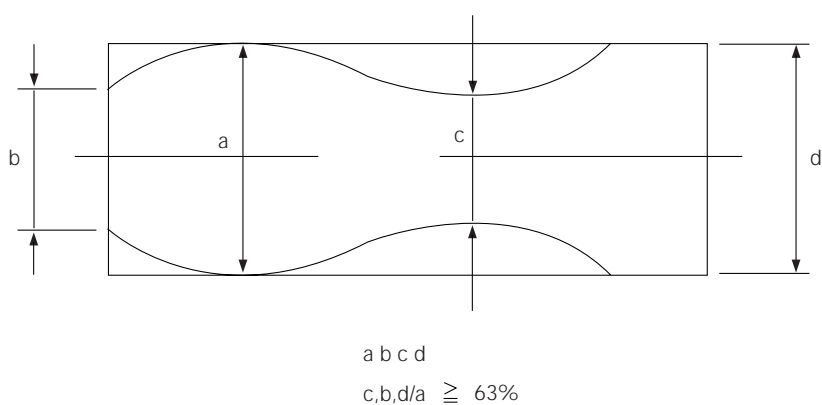

Fig. 4-11 Envelope Waveform Adjustment
- 3) Make sure the video envelope waveform (at its minimum) meets the specification shown in Fig. 4-11.